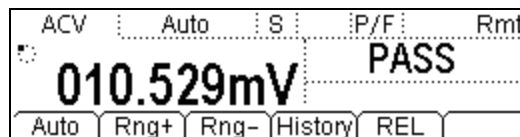

Figure 3-11 P/F Test result
- (3) Press ON to start P/F testing. As shown in Figure 3-11, The test result is "PASS" as the measured value is between 0V and 1V.